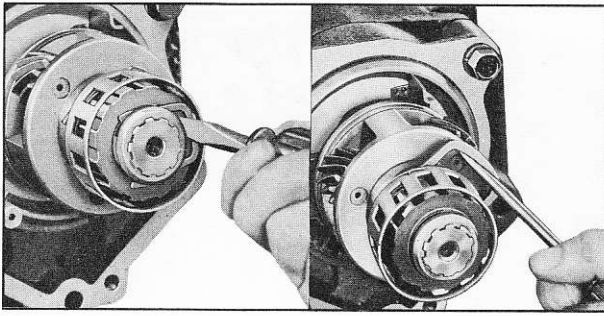

Fig. 8B—Removing Clutch Cam Retaining Clips
2. Pull "U" clips at each end of clutch cam (fig. 8B) and slide the cam and roller retainer from pinion cage hub and transmission mainshaft. If roller retainer or cam is to be replaced separate these pieces by pulling retainer out until the hooked ends of spring can be pulled out of holes in cam.